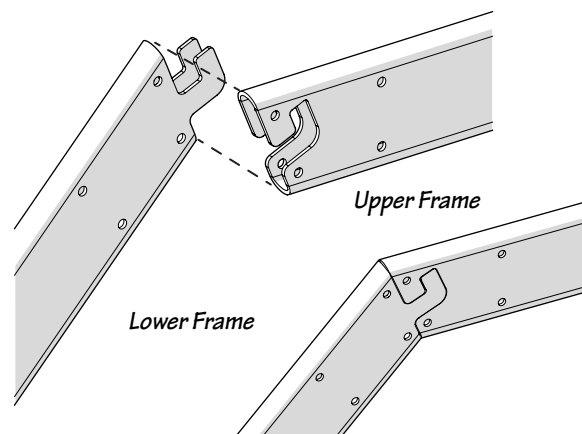

Fig. 3-2
- Grasp the lower frame with one hand and the upper frame rail with the other. Align the male "puzzle" end of the lower frame with the female "puzzle" end of the upper frame. Slide the frames together from the side as shown in Fig. 3-2.
(2) splice plates
(8) 5/16" x 2-1/4" carriage bolts
(8) 5/16" washers
- Lift the partially assembled frame and insert the remaining four carriage bolts through the ends of the pivot plate. Pass the bolts through to the opposite side, then attach washers and nylock nuts, as shown in Fig. 3-2.